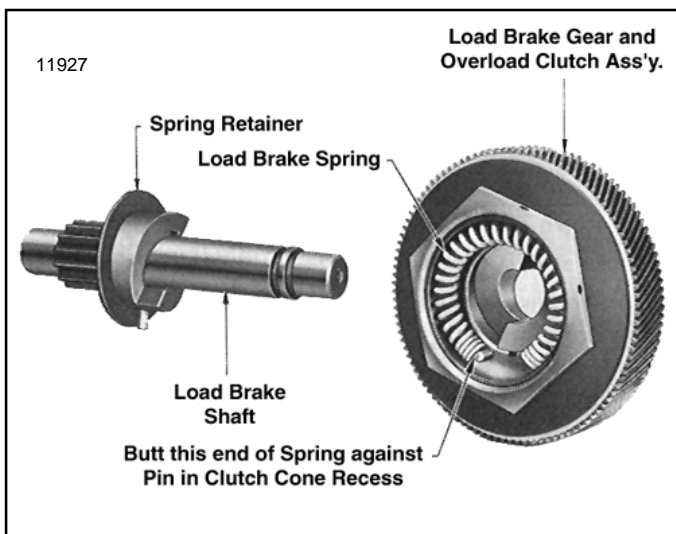

Figure 7-24. Load Brake Gear and Overload Clutch Assembly Removed from Load Brake Shaft Showing Brake Spring Installed in Clutch Cone
(3) Remove load brake gear and overload clutch assembly from output pinion shaft. Pull the spring from its recess in clutch cone (fig. 7-24) but do not further disassemble gear and clutch assembly. See **“NOTE”** below.
NOTE: Disassembly of the load brake gear and overload clutch assembly (fig. 7-24) is not recommended. Clutch pressure is preset by the factory at assembly to provide the correct torque to allow the clutch to refuse loads within a specified range (150% of rated load to 200% rated load). It is suggested whenever there is a need to repair or readjust the gear and clutch assembly that it be sent to an authorized **Yale** Hoist Repair Station where adequate tools, fixtures and appropriate test equipment is available.
(1) Before assembly, all parts should be cleaned and inspected to determine their serviceability. Replace parts that are worn or damaged.
(2) Reassemble load brake parts following a reverse procedure of the disassembly steps listed above, observing the assembly steps (3) thru (6) below.
(3) Before installing spring in its recess in center of clutch cone (fig. 7-24) apply a good grade of ball bearing grease to inside of recess. Spring must be positioned exactly as illustrated, abutted against pin.